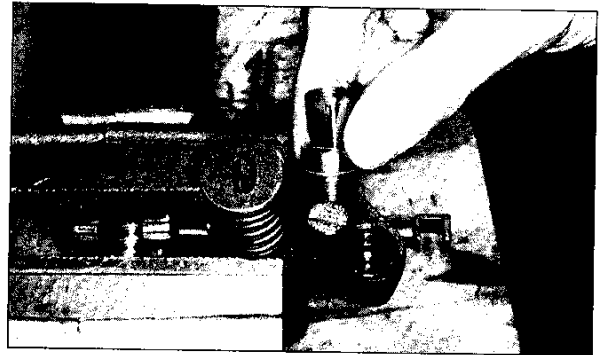

FIG. 1.6.10
4. Install the new filter (7) into the inlet port of the injector, grooved side up. The injector inlet port is located above the control rack (see Fig. 1.6.10).